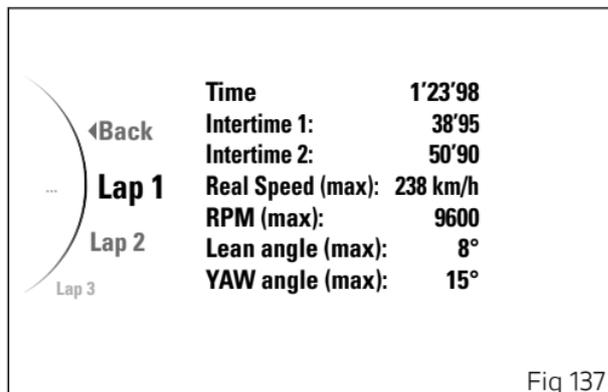

Fig 137
To view the LAPs memorised in one session, select the desired session and press the ENTER button (3). The display will show all the LAPs recorded in the selected session (Fig 137).